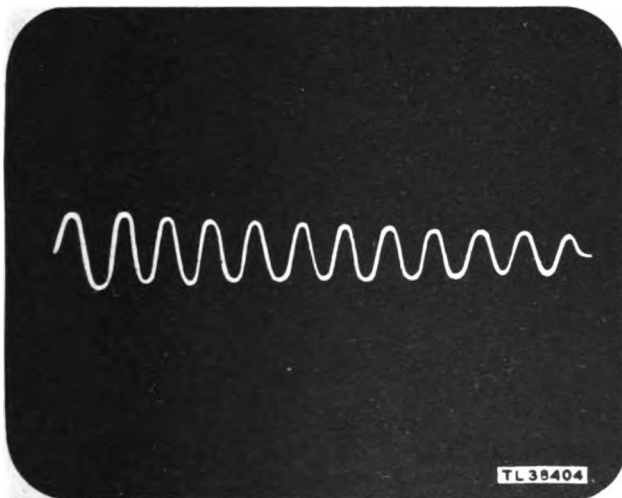

Figure 37. Control unit display pattern, 10 K YD. calibration.
**b.** Coincident with the start of each sweep, this oscillator starts producing a damped sine wave at a frequency of 200 kc. The period of 200 kc is 5 microseconds. All that is necessary, then, is to adjust the sweep duration until exactly 12 complete sine-wave cycles appear on the screen (fig. 37). The sweep duration necessary to present exactly 12 cycles at 5 microseconds per cycle is 60 microseconds, which is the approximate timebase for a 10,000-yard sweep.